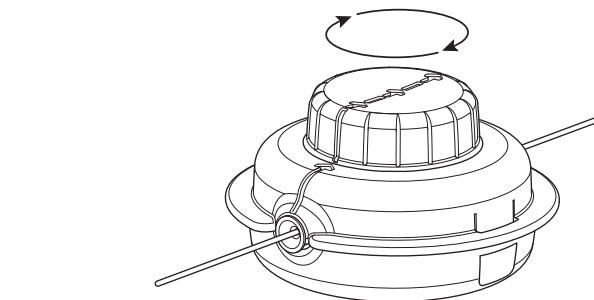

Fig. 16
- Turn the bump knob clockwise to wind the line until about 5 inches (12.7 cm) protrude from each side of the cutting head (Fig. 16). **DO NOT** push the bump knob down while winding the line.